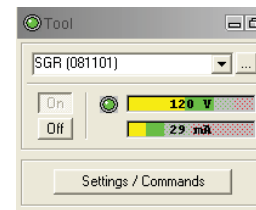

Figure 4-1 Tool panel
2. Select the relevant QL40 SGR tool from the drop down list (Figure 4-1) in the software's **Tool** panel (if your tool is not listed check that your tool configuration file is stored in the designated folder on your computer).
4. On the **Tool** panel (Figure 4-1) click the **Settings / Commands** button to configure your tool (see chapter 4.5 for details).